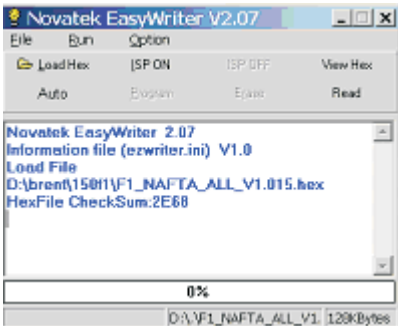
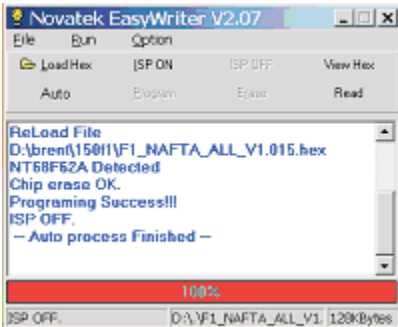

Fig. 7
Fig.8
- 2. Press the AUTO to run the program,the firmware be updated as shown in Fig7` Fig.8